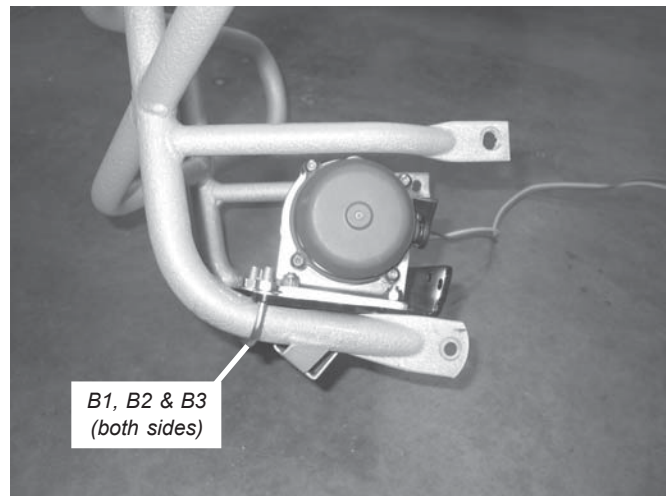

Figure 4, Place Winch, Mounting Plate and Fairlead Assembly onto Front Bumper
5. Place the winch and mounting plate assembly into position on the front bumper, figure 4 and figure 5. Install two 1/4-20 x 1 1/8" x 1 3/4" U-bolts (B1), four 1/4" flat washers (B2) and four 1/4-20 lock nuts (B3) that were supplied in the mounting kit, figure 4 and figure 5. Do not tighten fasteners at this time.